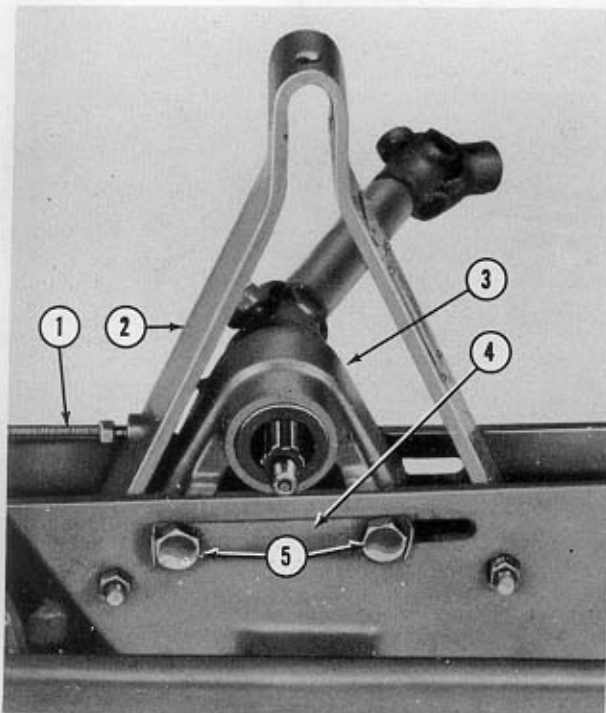
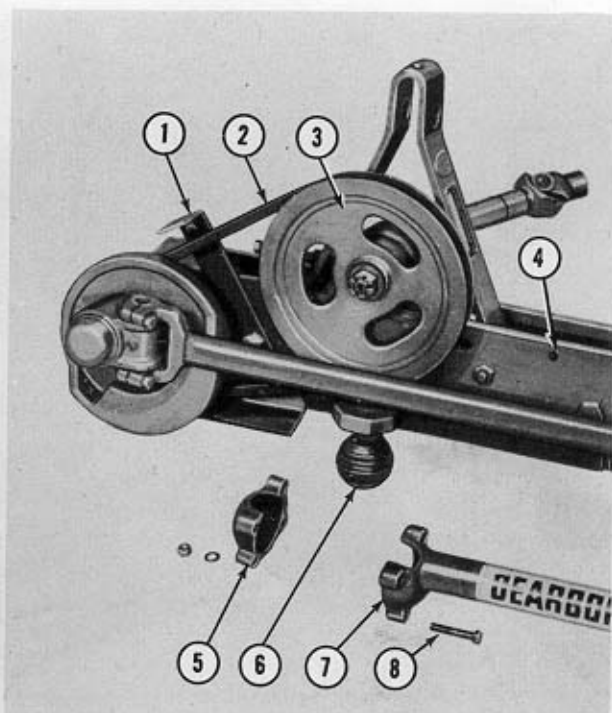

Figure 3
Figure 4
2. Remove the drive pulley (3), Figure 4, from the drive shaft and loosen the belt adjusting bolt (1), Figure 3.
- a. Position the drive shaft bearing housing (3), Figure 3, in the main frame close to the left side of the A-frame (2) as shown.
- b. Attach the bearing housing to the main frame with the lock plate (4), Figure 3, and the two $\frac{5}{8}$ "x 4" bolts (5), flat washers, lock washers and nuts provided. Do not secure at this time.
- c. Reattach the drive pulley (3), Figure 4, to the splined end of the drive shaft and
3. Slide the V-belt (2), Figure 4, over the pitman arm onto the pitman drive pulley and the drive shaft pulley (3) as shown. Turn the belt adjusting bolt (1), Figure 3, against the bearing housing (3) until there is $\frac{1}{4}$ " slack in the V-belt midway between the pulleys. Tighten the nuts on the bolts (5), Figure 3, securely.
4. Place the rubber cup (6), Figure 4, over the steel ball on the mower frame as shown. The rubber cup is provided in the bag of parts. Tilt the main frame assembly forward on the drive shaft and secure the drag bar (7), Figure 4, to the ball (6) with the drag bar outer cup (5) and four $\frac{3}{8}$ "x 2" bolts (8). Secure with the lock washers and nuts provided.
- Position the belt guard over the flywheel pulley and the drive pulley (3), Figure 4, and align the holes in the guard with the holes in the bracket (1) and the hole (4) in the main frame.